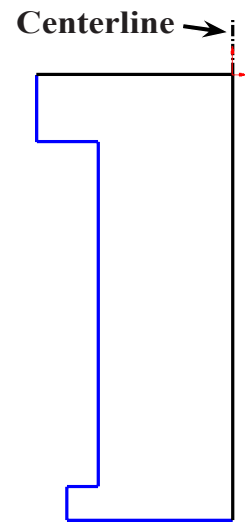

Fig. 3
Step 6. Sketch **vertical centerline** from Origin , **Fig. 3**.
Step 7. Click **Smart Dimension**  (S) on the Sketch toolbar.